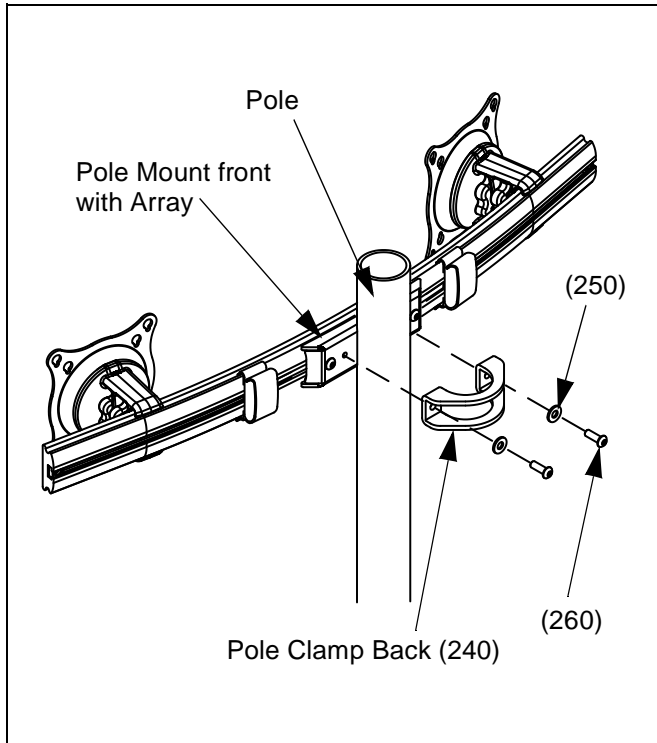

Figure 4: Assemble Array Rail to Pole
2. Assemble pole clamp back (240) to pole mount front using two FW (250) and two BHCS (260) using a 5/32" hex key. (see Figure 4)
3. Secure pole mount back (240) to pole mount front and pole by tightening two BHCS (260) using a 5/32" hex key.